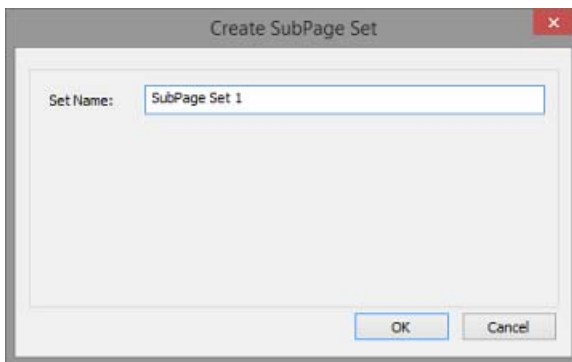

FIG. 109 Create SubPage Set dialog
- Under *Sub-Page Sets*, click **New**. This invokes the *Create Sub-Page Set* dialog (FIG. 109):